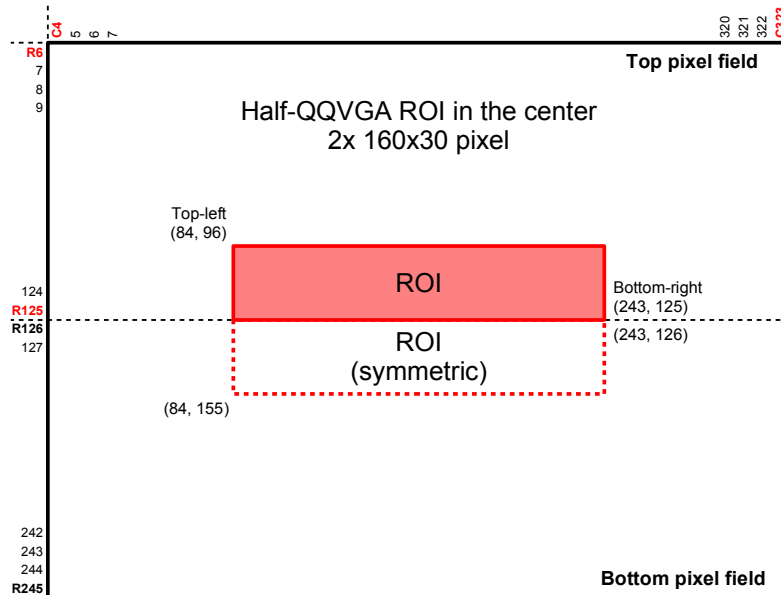

Figure 35: ROI for Half-QQVGA: 2 x 160 x 30 pixel
- 8-bit mode: Transfers the 8 MSB bits of the pixel data with 1x DCLK. Refer to Table 16 and Figure 35.